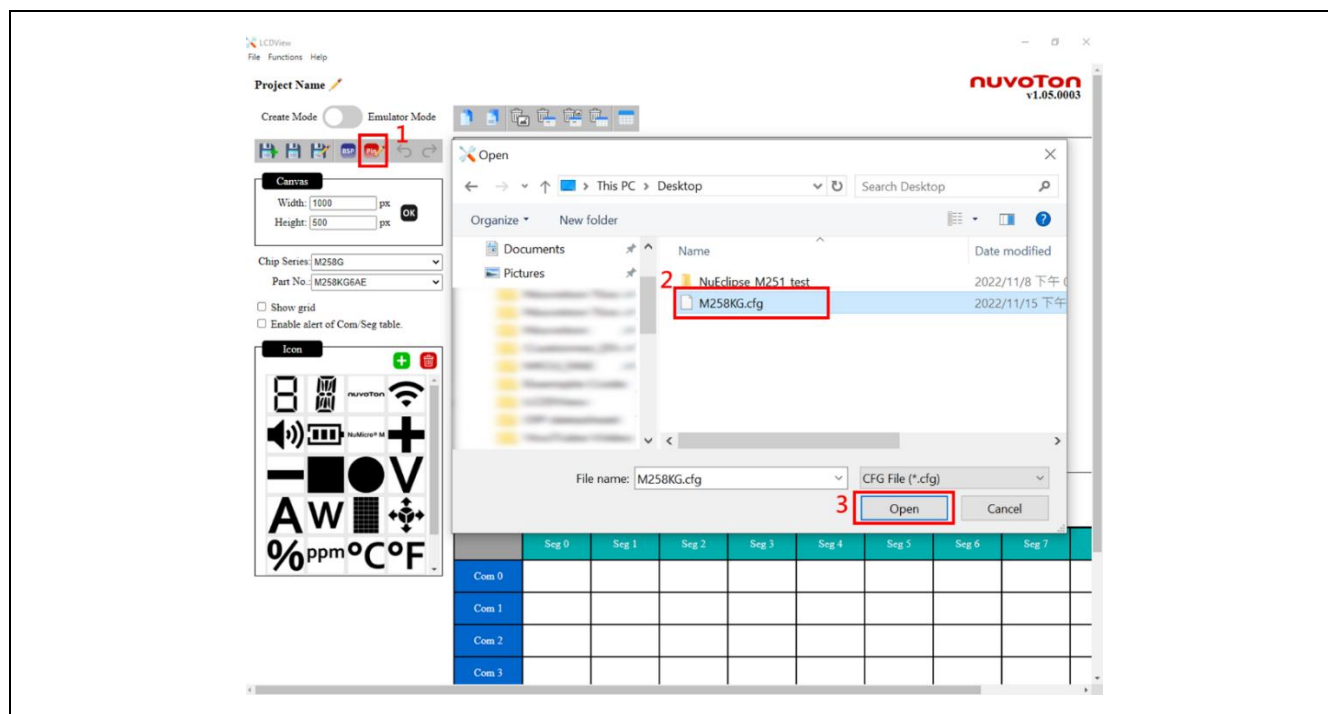
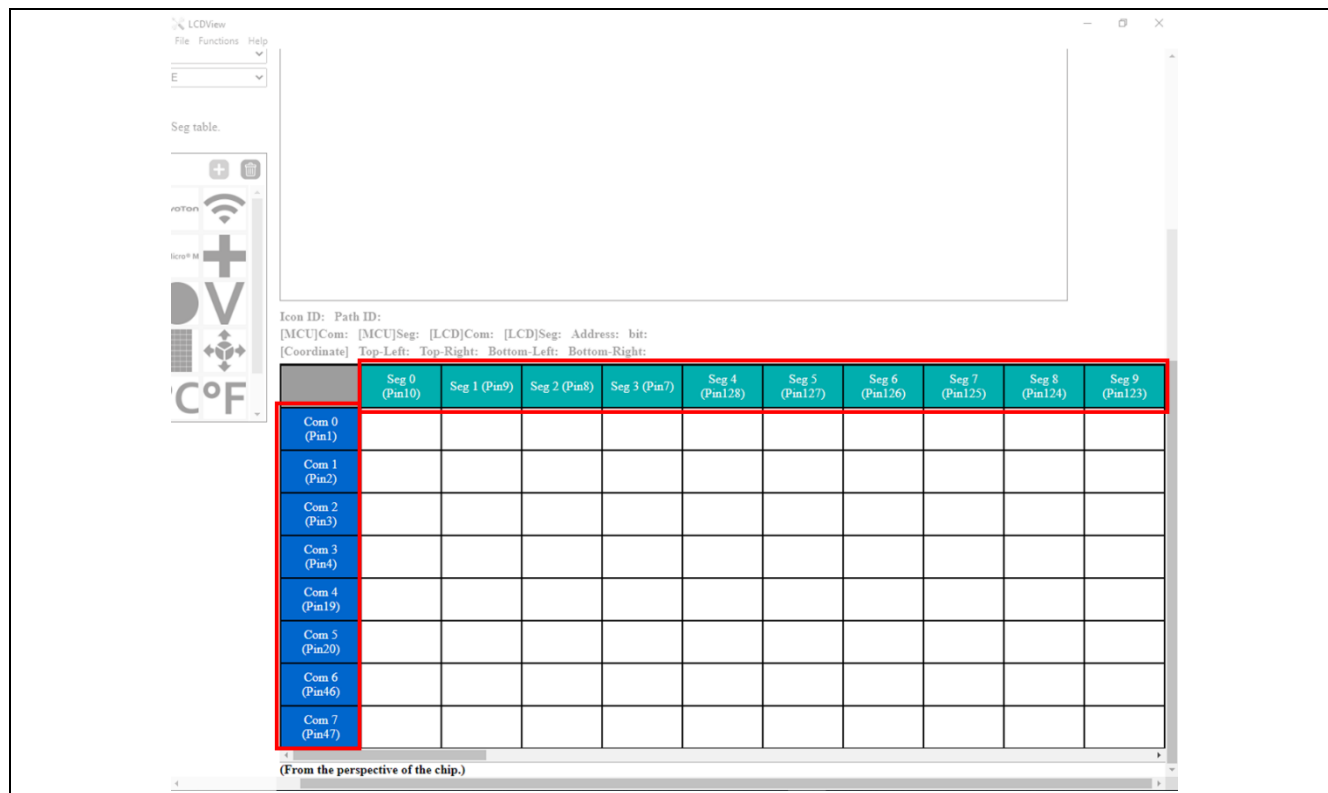

Figure 1-4 Import the M258KG.cfg into LCDView
Figure 1-5 MCU Pin Number Shown in COM/SEG Table
- Choose the target “Chip Series” in NuTool-LCDView and click  icon to import the file “M258KG.cfg” into LCDView, as shown in Figure 1-4. The MCU pin number would automatically map to the COM/SEG table, as shown in Figure 1-5.